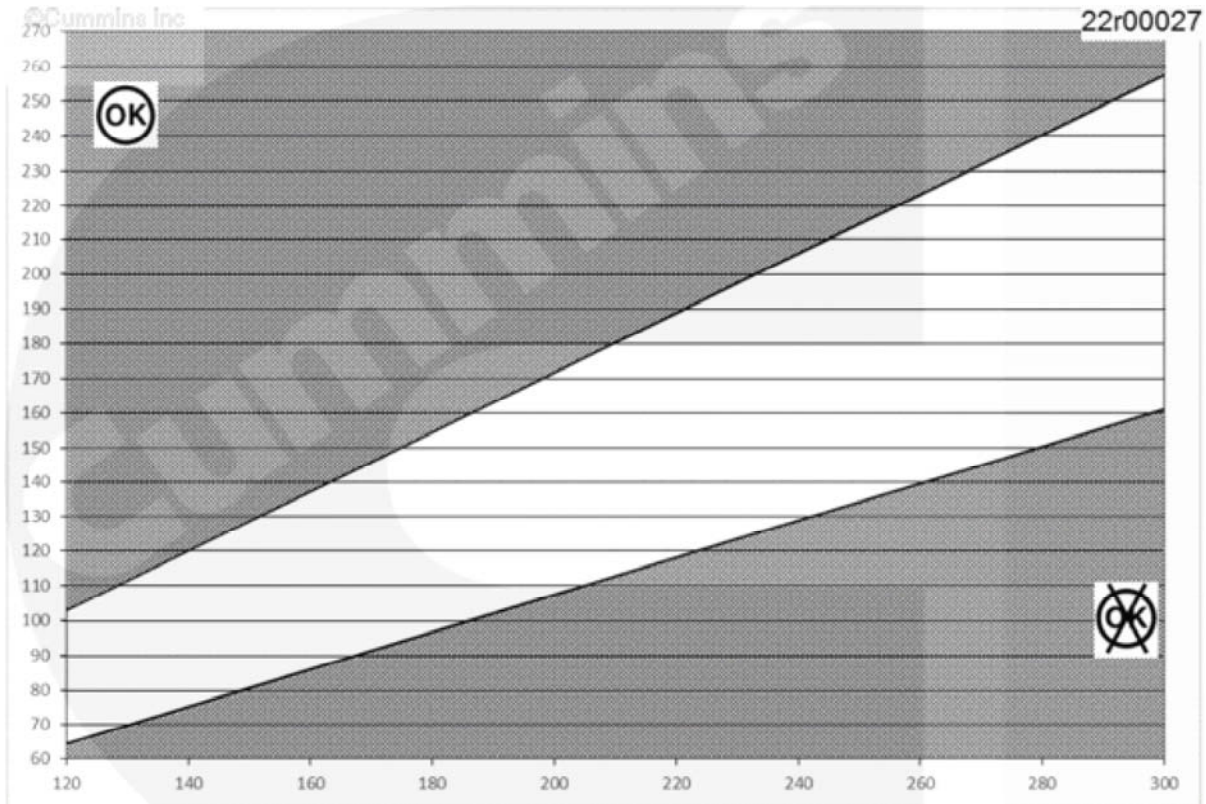
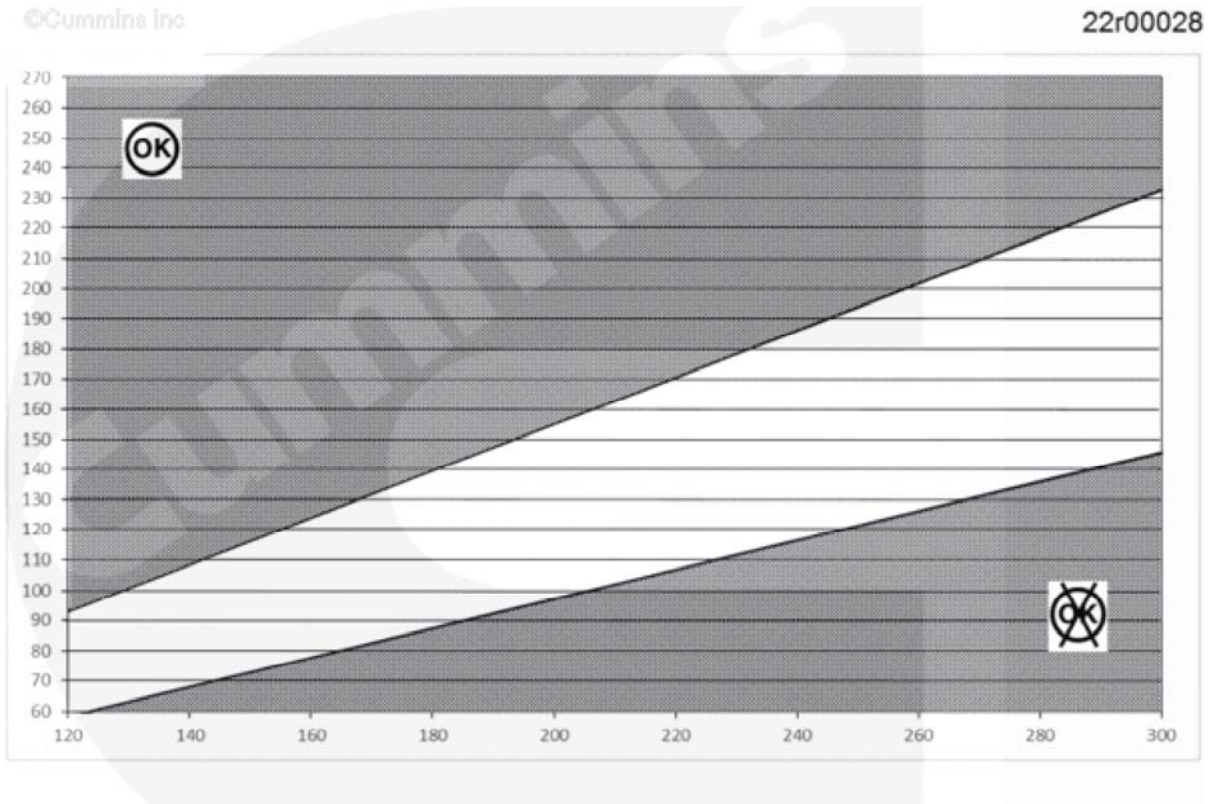
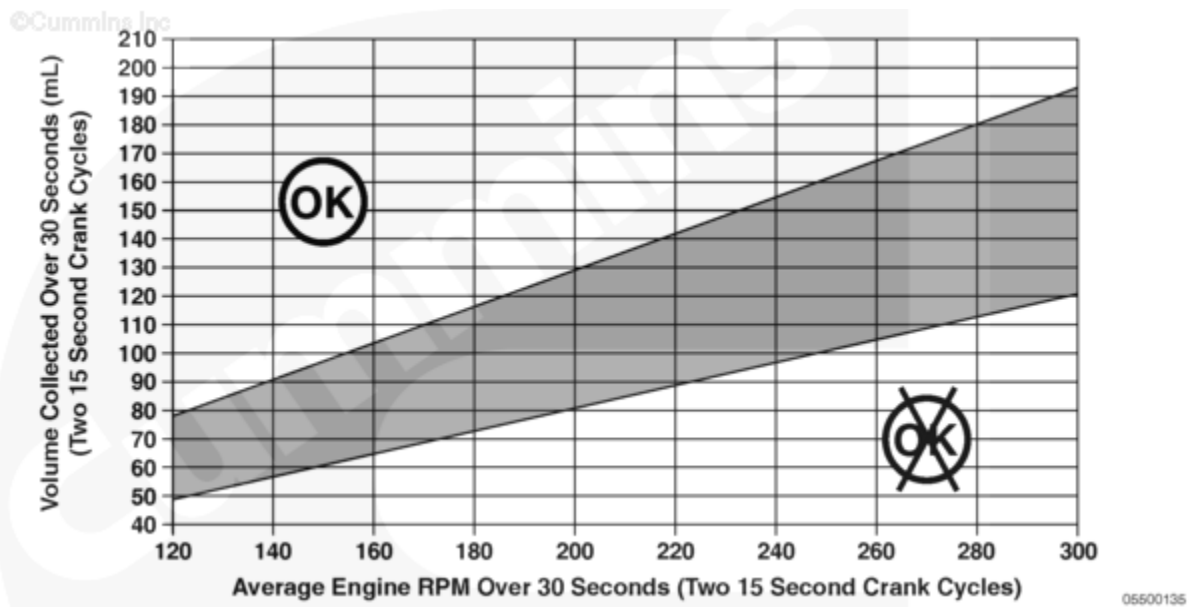

Figure 5, Engine Speed [rpm] Versus Service Tool Fuel Volume [ml] for All ISX/QSX CM2250 Engines.
Figure 6, Engine Speed [rpm] Versus Service Tool Fuel Volume [ml] for All ISX/QSX CM2350 Engines.
Figure 7, Engine Speed [rpm] Versus Service Tool Fuel Volume [ml] for All ISL/QL CM2350 Engines.
- See graphs, Figure 5, 6 and Figure 7 below, to determine the minimum fuel volume from the high- pressure fuel pump service tool.
- For all ISX/QSX CM2250 and CM2350 engines, see Figure 5 and Figure 6 below.
- For all ISL/QSL CM2350 engines, see Figure 7 below.
For Figures 5 and 6 below:
2016-5-5	Updated Step 5 and 6 and Figure 4 and 5 axis explanations. Added Figure 7.